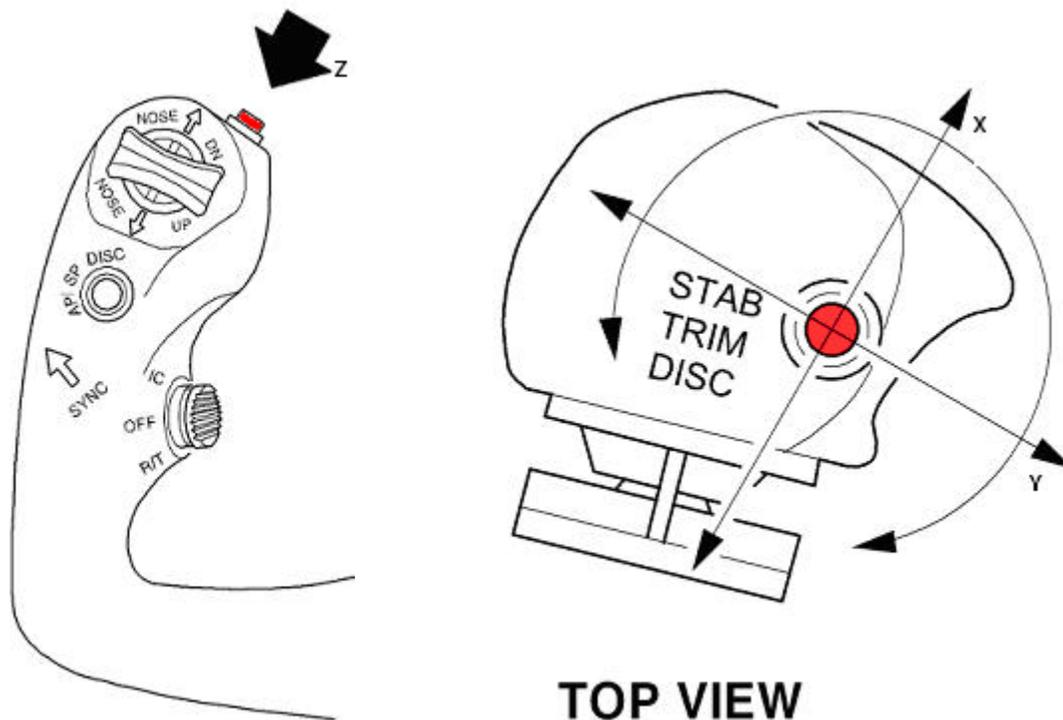

Figure 1-2: HSTCS Disconnect Switch Sensitivity Test
6.1	Without depressing the disconnect switch (no click, no movement in the z axis), apply lateral pressure on the side of the switch in different directions (x and y axis) as per Figure 1-2, monitoring for STAB TRIM, STAB CHAN 1 INOP or STAB CHAN 2 INOP messages on the EICAS displays.
6.2	Without depressing the disconnect switch (no click, no movement in the z axis), rotate the disconnect switch with a pivotal action on its axis several times in each direction as per Figure 1-2, monitor for STAB TRIM, STAB CHAN 1 INOP or STAB CHAN 2 INOP messages on the EICAS displays.